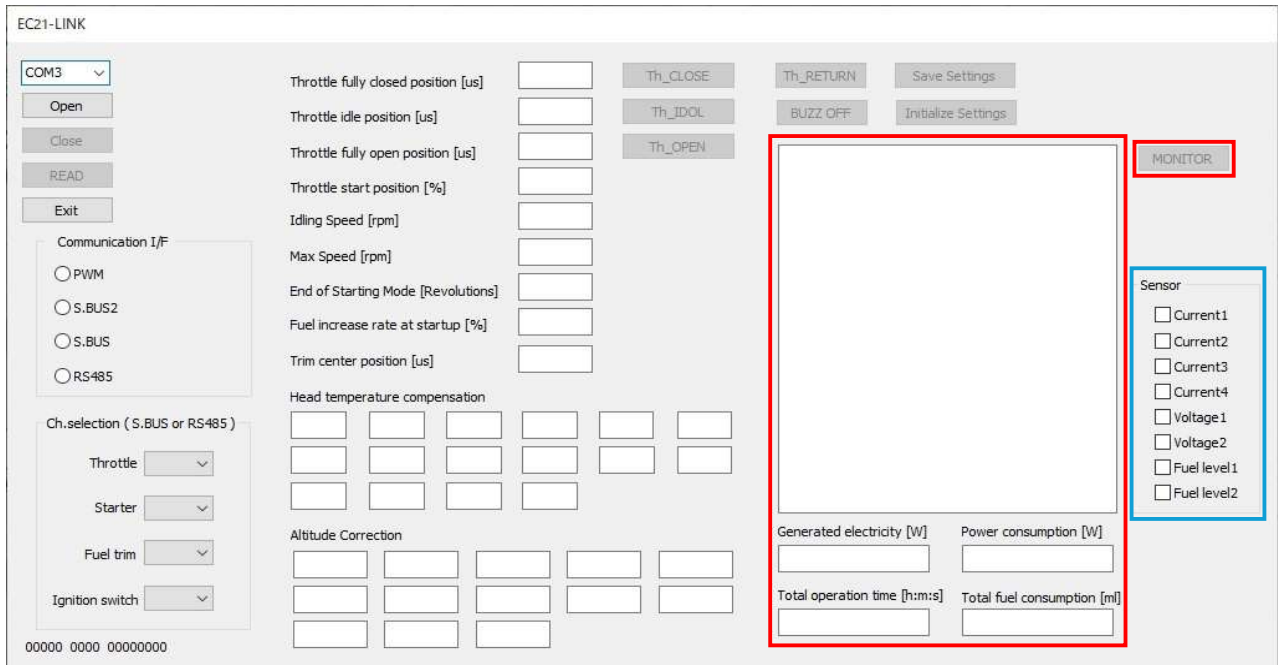

Fig.8.2
The measured value of the following articles (13)~(17) are shown on the display when the sensors are connected to the connection terminal on top of the ECU. (13)Current 1 and (14)Current 2 have to be connected for power generation control. Everything else is optional. In Fig 8.2, in the blue box, by putting a check on check boxes, you can select an item, which can be shown on the display.
(14) Current1 (Battery charging) [A]